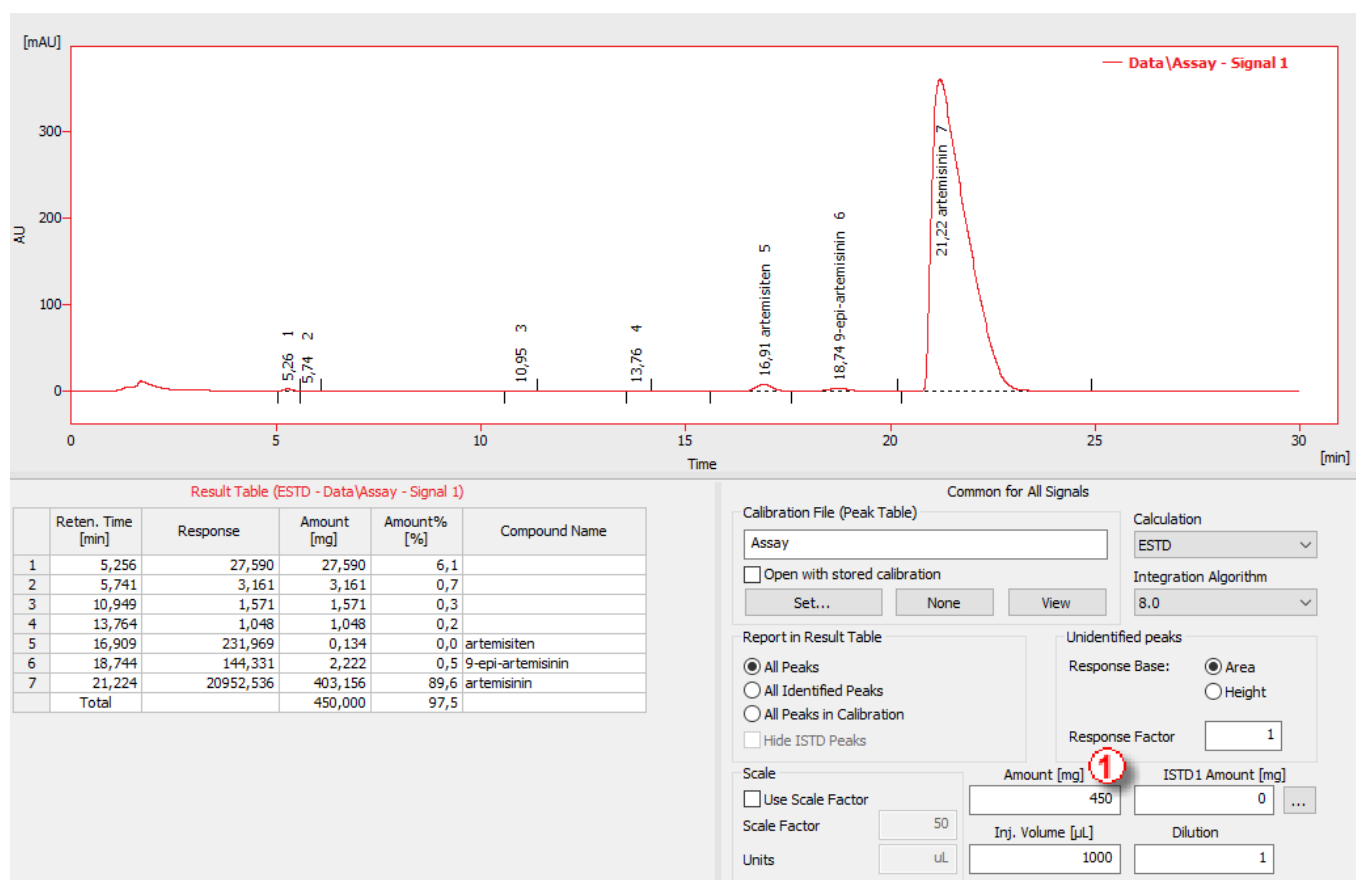

Fig. 3 – Customized assay calculation
The first equation defines how to determine percent content (assay) of artemisinin, on the figure 3 is displayed result calculated in Clarity. In order to be able to perform such calculations in Clarity you need to prepare related calibration. In this case the calibration is called "Assay" and its detailed setting can be reviewed in the figure 6. It is necessary to insert specific amount (mass) of the test substance into Amount ① field on the right side of Chromatogram window. The correctness of the calculations in Clarity was verified against the same calculations done in MS Excel. The result sheet from MS Excel can be downloaded from following link: Custom-calculations-in-Clarity-data.zip.